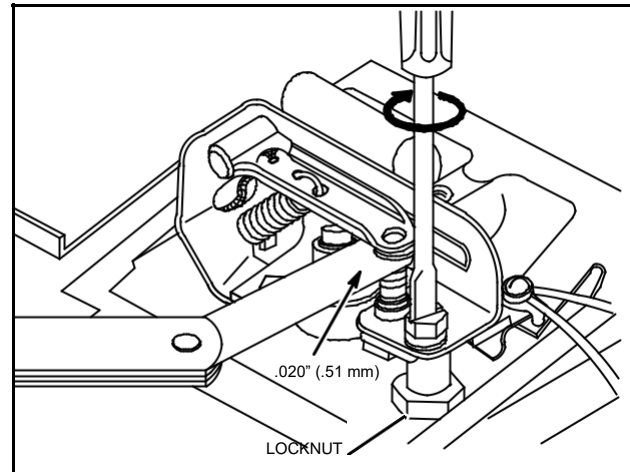

Fig. 21 – Adjust Point Gap
4. Tighten locknut and recheck gap, Fig. 21.